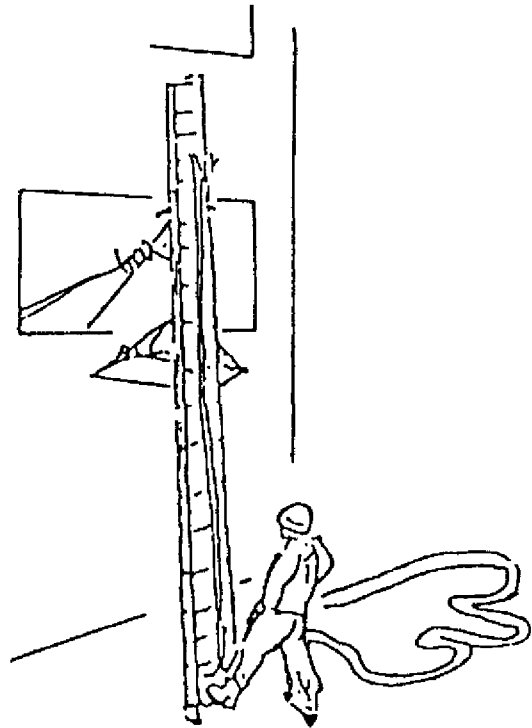

Fig. 7-7 Horizontal rescue using a ladder
(4) Rescue
- d. The belayer of the rescue rope at the base of the ladder stands with one foot braced against the bottom rung under which the rope passes. (Fig. 7-7)
(5) Cautions